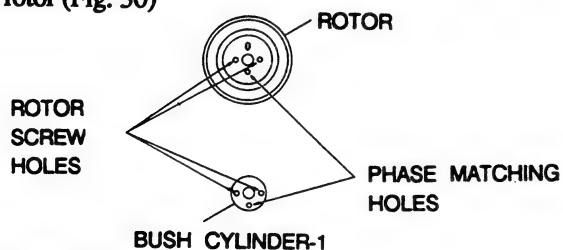

Fig. 30 Motor Rotor Assembly
1. Tighten 2 screws while fixing the hole of cylinder bush and rotor (Fig. 30)